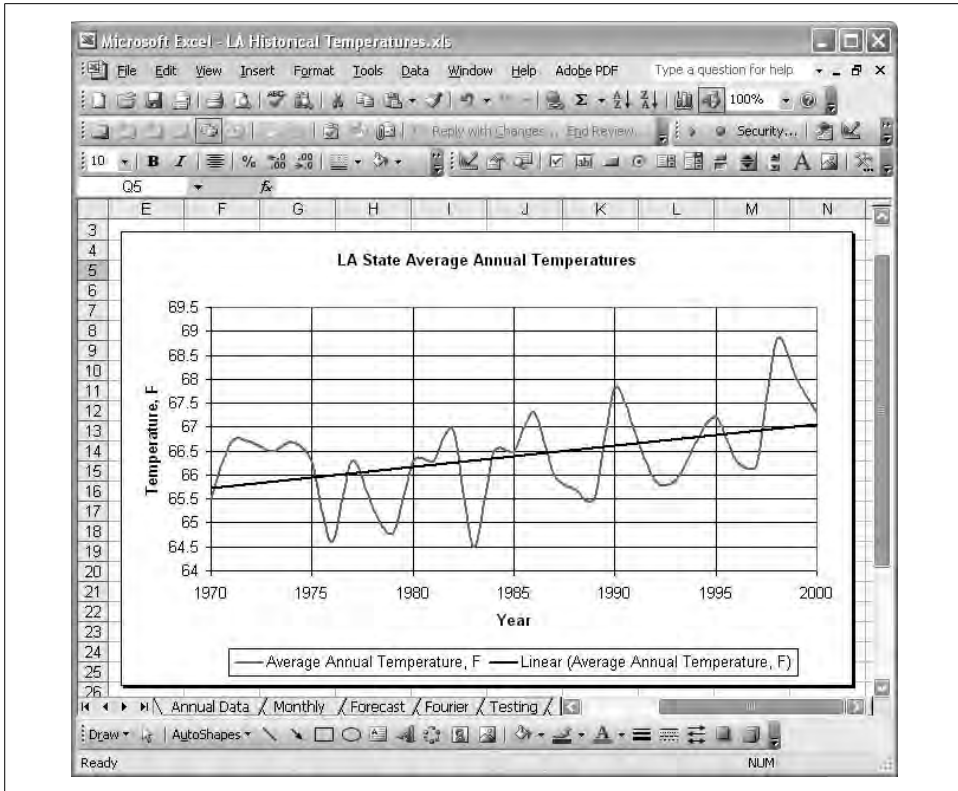

Figure 6-20. Annual temperatures from 1970 to 2000
Figure 6-20 shows historical average annual temperatures for the state of Louisiana from 1970 to 2000. This series exhibits a clear upward trend, highlighted by the linear trendline superimposed over the original data.
Using the multiplicative model, divide both sides of the equation $Y = TSI$ by T to yield $Y/T = SI$. This means the detrended series, Y/T , consists only of the seasonal and irregular variation components. To actually compute Y/T , you must first compute a trendline as shown in Figure 6-20 (see Recipe 6.2 or Chapter 8). Then compute the trend value for each year in the series. Next, divide the original series ordinate (Y) by
The formula for the trendline shown in Figure 6-20 is $T=0.0446x-22.061$, where x is the year. (This trendline equation was determined using Excel's chart trendline feature; see Recipe 6.2.) Column D (under the heading T), contains this formula for each year. The cell formulas in column D are of the form $=0.0446*B40-22.061$. This series represents the long-term trend component for the original time series.